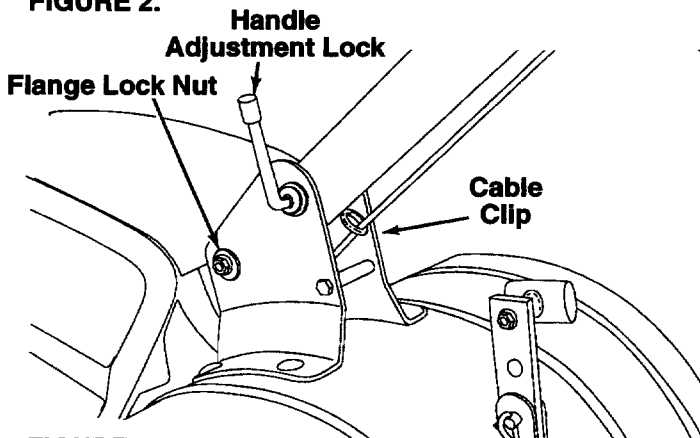
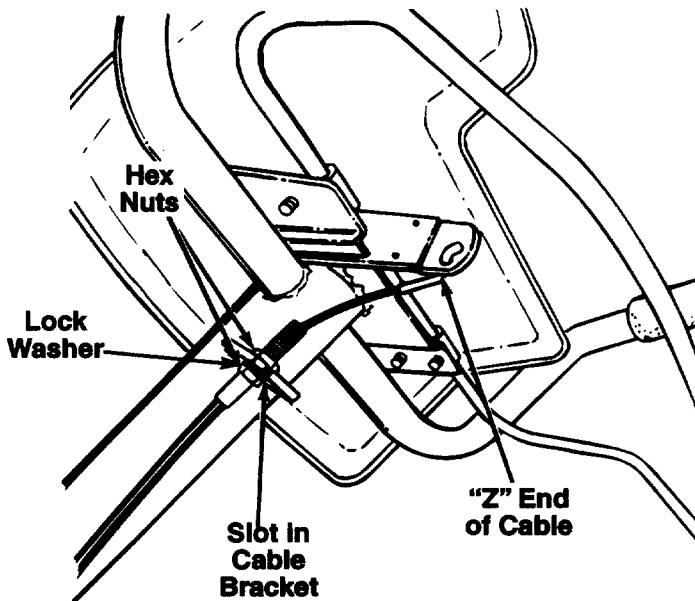

FIGURE 3.
FIGURE 6.—Viewed beneath handle panel.
5. Secure the bottom of handle by placing flange lock nut on hex bolt. Do not tighten at this time. See figure 3.
1. Route the clutch cable through the cable clip underneath the handle. Be careful not to bend or kink the cable. Refer to figure 3. Remove one hex nut from the threaded casing on the end of the cable. See figure 6.
3. Pull the cable upwards to obtain slack, and hook the "Z" end of the cable into the bracket on the clutch control (beneath the handle panel) as shown in figure 6 (from right to left). Tighten the nut against the cable bracket.
- If the belt turns with the unit in neutral,** adjust by moving the hex nut below the cable bracket down two complete turns. See figure 6. Tighten the upper hex nut against the bracket.